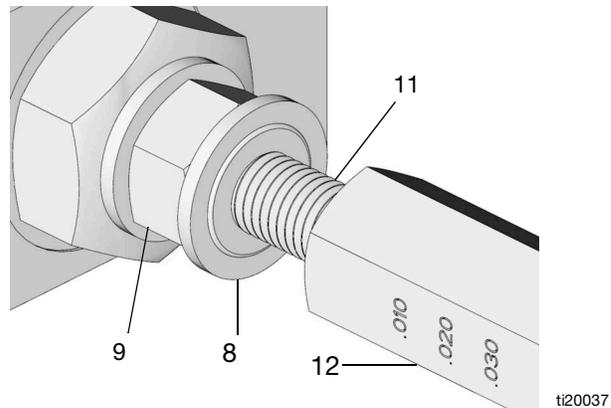

FIG. 2
2. Remove adjustment screw cap (12) and gasket (8) from adjustment screw (11), holding jam nut (9) with a wrench if necessary (FIG. 2).